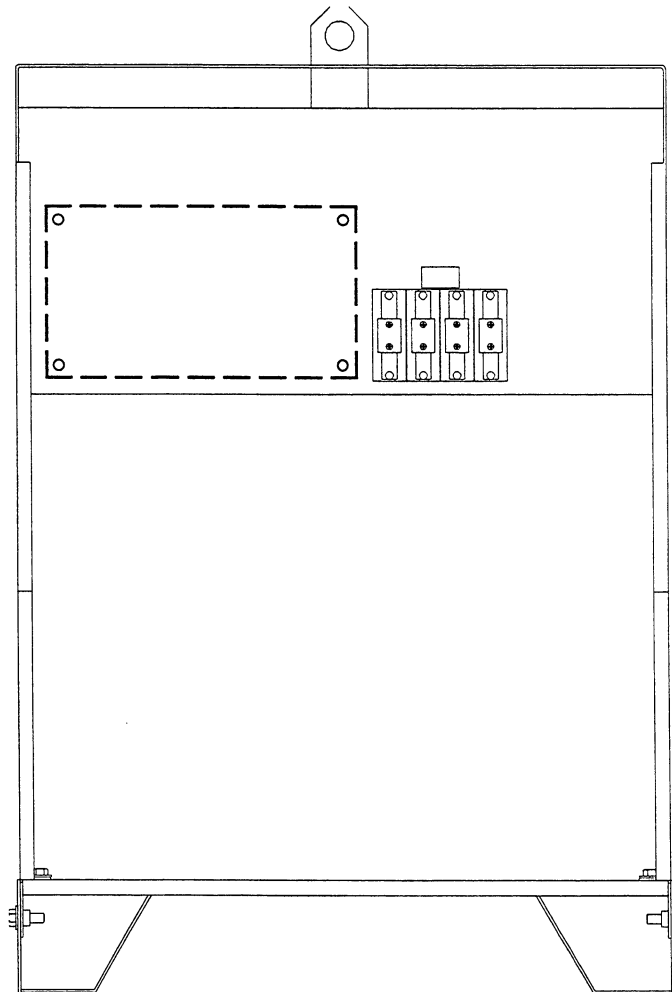

Figure 4 HT4001 Mounting Location of Start Circuit Subassembly
3. Find the drill template (802690) on the D-sized paper and follow the instructions on the print. The template holes will line up approximately as indicated by the dotted lines in Fig. 4 below.